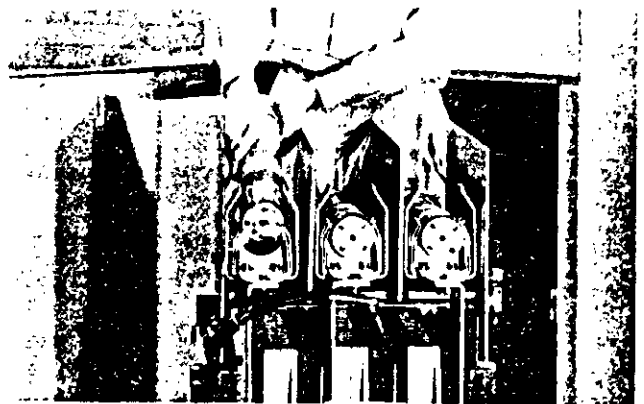

Fig. 22 - No special tools required for fuse installation.
*FUSE REPLACEMENT (See Fig. 22)